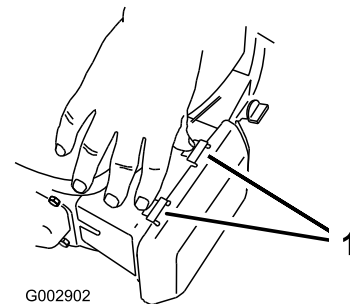

Figure 20
1. Press down on the latch tabs on top of the air cleaner cover (Figure 20).